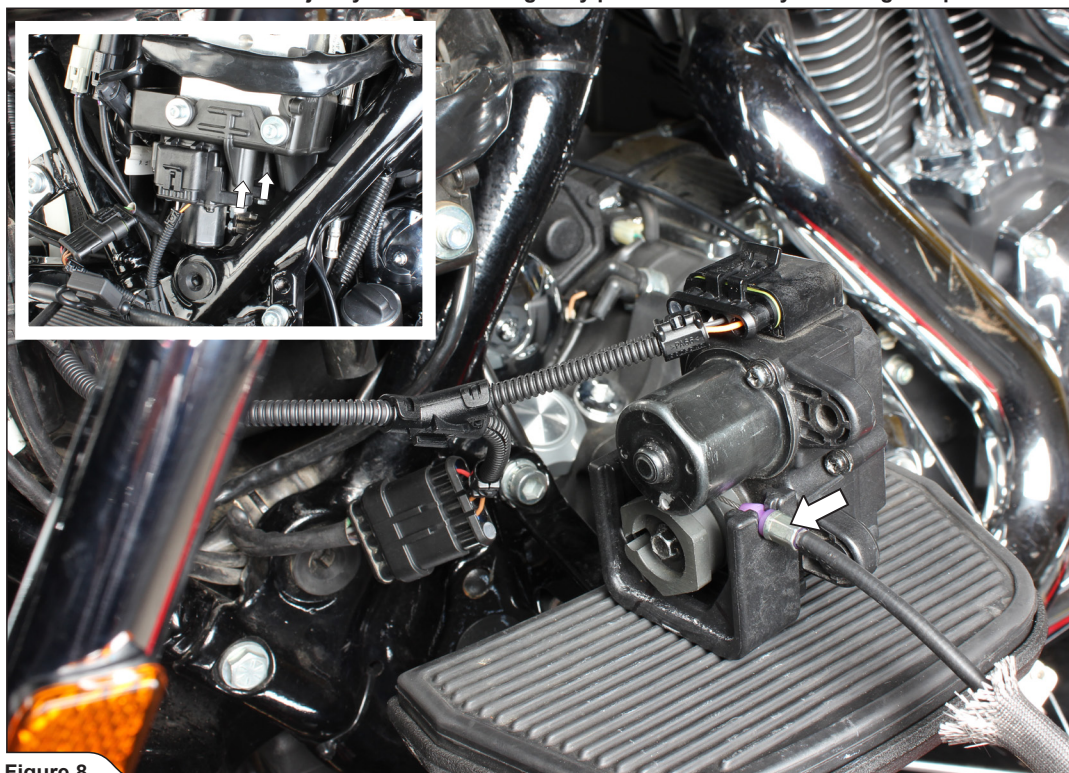

Figure 8
7. Unscrew the marked bolts and remove the servo motor together with the cable off the motorcycle (Figure 8). Remove the cable from servo motor. Now put the servo motor in its base position: